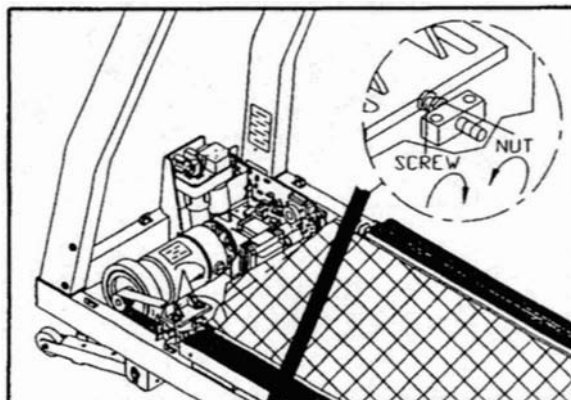

Fig.5
2. Tighten the adjustment screws by turning clockwise with a combination wrench. Then, fasten the nut securing the motor frame adjustment bracket by turning counterclockwise. (see Fig. 5)